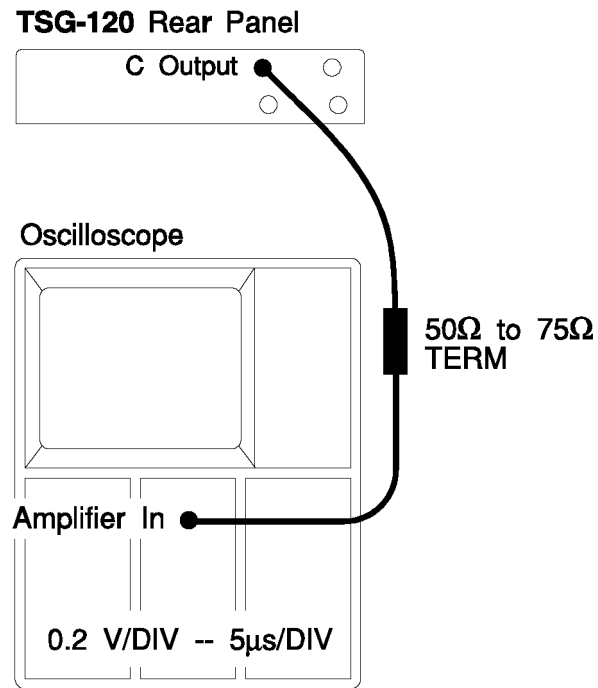

Figure 3–8: Chrominance blanking level test setup
- a. Connect the equipment as shown in Figure 3–5 (and select channel B2 at the front panel of the measurement set) or Figure 3–8.
- a. Connect the equipment as shown in Figure 3–5 (with channel B2 selected at the front panel of the measurement set) or Figure 3–9.